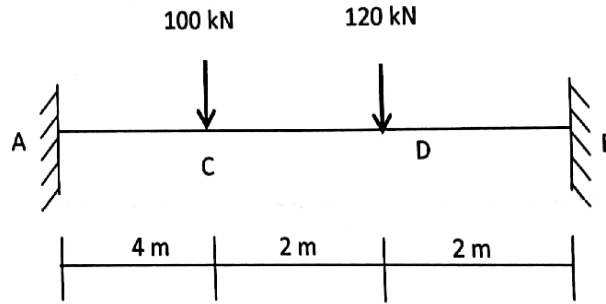

Fig.2
Q.2 A beam of length 10m is simply supported at its ends as shown in following figure 2. Determine the deflection of the beam at its midpoint and also the position of maximum deflection. Take $E = 200 \times 10^3 N/mm^2$ and $I = 5.0 \times 10^8 mm^4$. 13